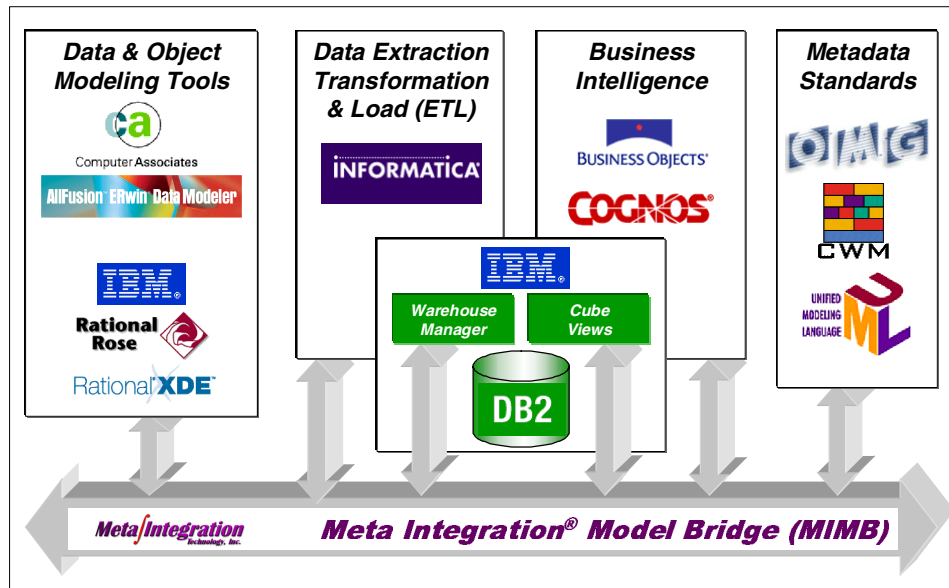

Figure 2-1 A sample of typical metadata movement solutions
Meta Integration Technology, Inc. is a Silicon Valley, California based software vendor specialized in tools for the integration and management of metadata across tools from multiple vendors, and multiple purposes including data and object modeling tools, data Extraction, Transformation, and Load (ETL) tools, Business Intelligence (BI) tools, and so on. The need for data movement and data integration solutions is driven by the fact that data is everywhere underneath business applications. The same applies for metadata: metadata is also everywhere underneath the data and object modeling tools, as well as within the repositories of the ETL, Data Warehouse, Enterprise Application Integration, and Business Intelligence development tools. Meta Integration offers metadata movement solutions for the integration of popular development tools with IBM DB2 Cube Views, as illustrated in Figure 2-1.